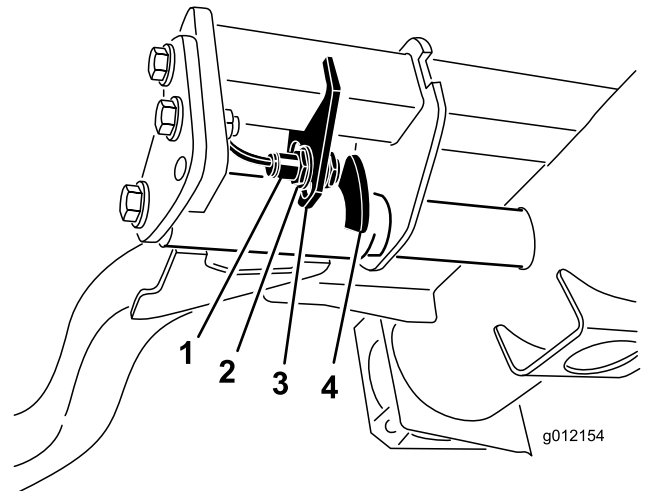

Figure 36
2. The lift-arm switch is located underneath the hydraulic tank behind the front, right lift arm (Figure 36).
3. Loosen the switch-mounting screws and move the switch down to increase the lift-arm turnaround height or move the switch up to decrease the lift-arm turnaround height (Figure 36).